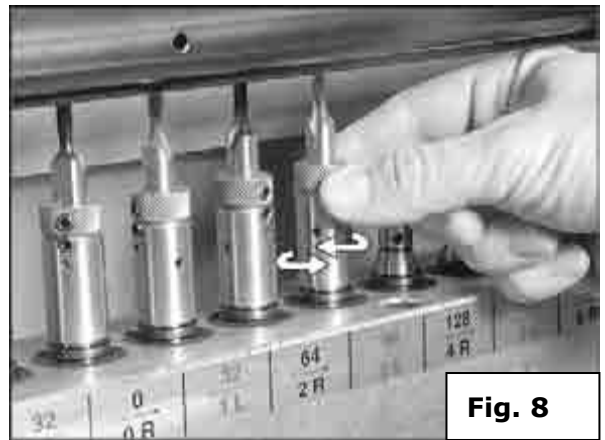

Fig. 8
1. Make sure the two set screws (Fig. 8) on the chuck are backed out far enough for the bit to be inserted. Push the shank of the boring bit into the knurled end of the chuck. Make sure the flat of the boring bit shank is toward the set screws, as shown in Fig. 8
5. After all boring bits are installed, check to make sure they are aligned, that is, that they all protrude an equal distance from the chuck. (This assumes, of course, that all boring bits are of equal length). This can be done by laying a straight edge across the tips of the boring bits, as shown in Fig. 8